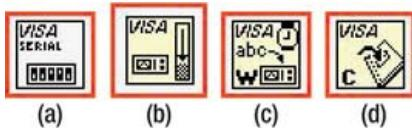

Figure 10-16. (a) The VISA Configure Serial Port Function, (b) the VISA Flush I/O Buffer Function, (c) the VISA Write Function, and (d) the VISA Close Function
- ***Virtual Instrument Software Architecture (VISA) Configure Serial Port***—This function sets up the serial port's resource name, baud rate, parity, stop bits, flow control, and data bits (see Figure 10-16(a)).
- ***VISA Flush I/O Buffer***—This function deletes the data that is stored on the buffer, allowing for more information to take its place (see Figure 10-16(b)).
- ***VISA Write***—This function writes data to the serial port you specified in the VISA Configure Serial Port Function (see Figure 10-16(c)).
- ***VISA Close***—This function closes out the serial communication session (see Figure 10-16(d)).